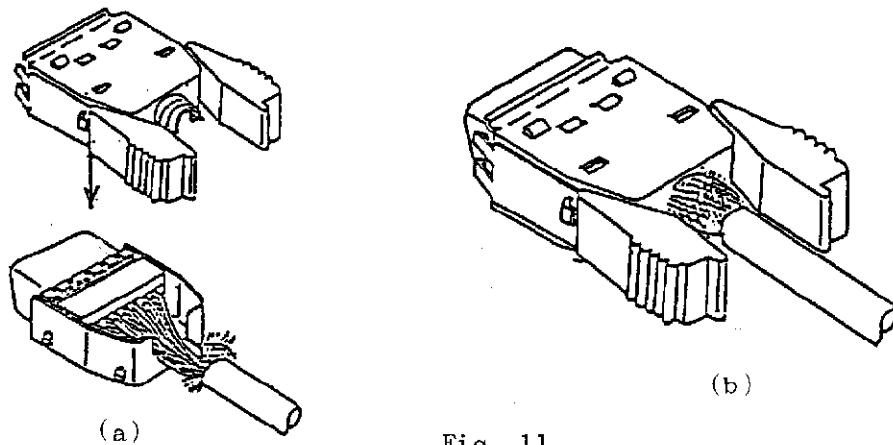

Fig. 11
6.2 Apply rear upper shell to fit over the rear bottom shell as shown in Fig. 11. At this time, align four detent projections in front part of rear upper shell onto the engaging holes of the front shell, and press them together to engage firmly, with the care not to bite the wires between the engaging shells. Finally, lace the braid wires over the engaged ring of the shells, as shown in Fig. 11 (b).